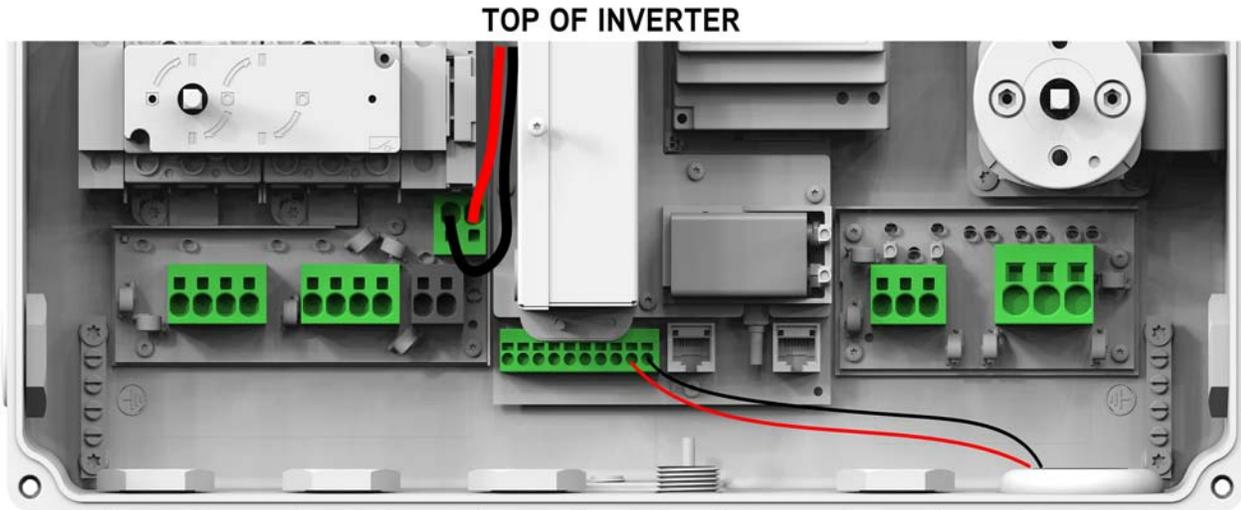

Figure 3-14: Fireman Switch connections
The Rapid Shutdown Slaves (PLC receivers) that receive these PLC signals are embedded in the RSD boxes on the roof. An RSD signal initiates a rapid shutdown function when triggered by the Fireman Switch located either beside the main panel or by the DC Disconnect Switch. See *Figure 3-14* and *Figure 3-15* for mounting and operation, respectively.
*Note: The Fireman Switch may be mounted near the main panel, and the lines from the Fireman Switch will often share the same 1" conduit with the AC Grid lines, as shown in *Figure 3-14*. If the Fireman Switch is mounted underneath the wiring box, then it may use a dedicated 1/2" conduit.*